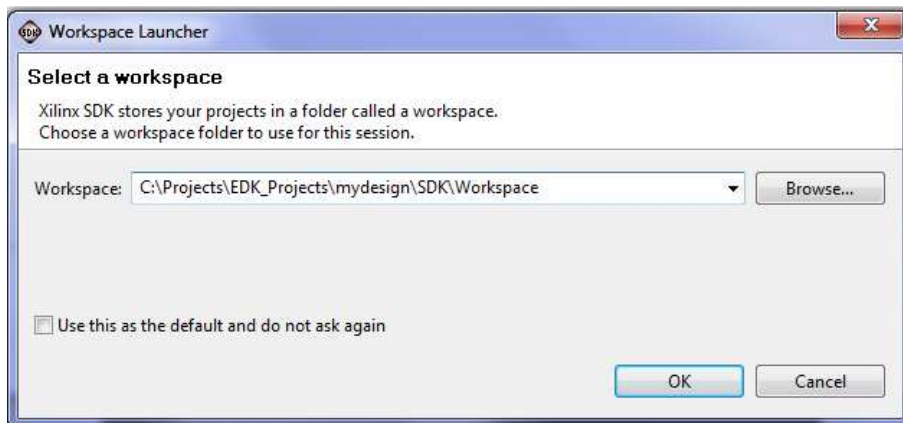

Figure 20. Workspace Launcher (Step 2)
Step 2: When the SDK starts the work space launcher window shown in Figure 20. The workspace as a software environment which is used to collect several projects in one entity. As the SDK is based on eclipse platform, those who are familiar with eclipse will find it easy to deal with the SDK. Change the workspace path as shown in Figure 20.